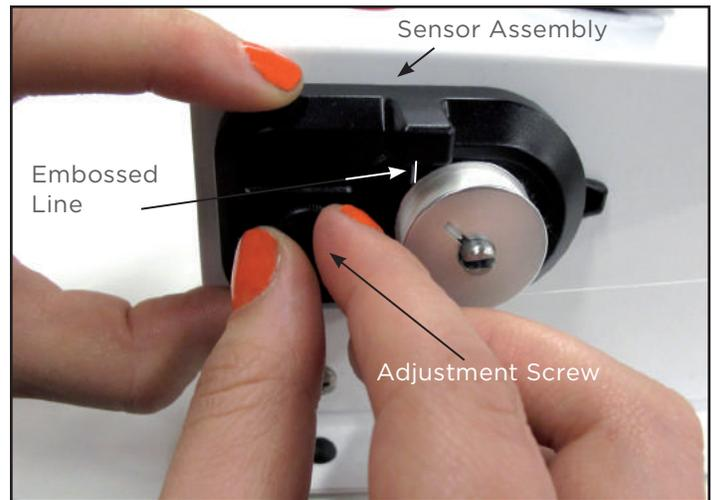

Figure 10
2. If the bobbin was wound with too much thread, loosen the bobbin stop sensor's adjustment screw enough to be able to move the sensor assembly (Figure 10).